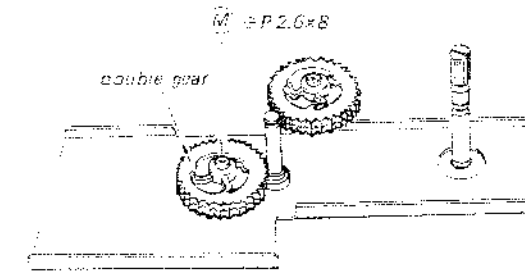

Fig. 2-18.
4. Remove the screw marked ⑤ in Fig. 2-18 and take off the double-gear.